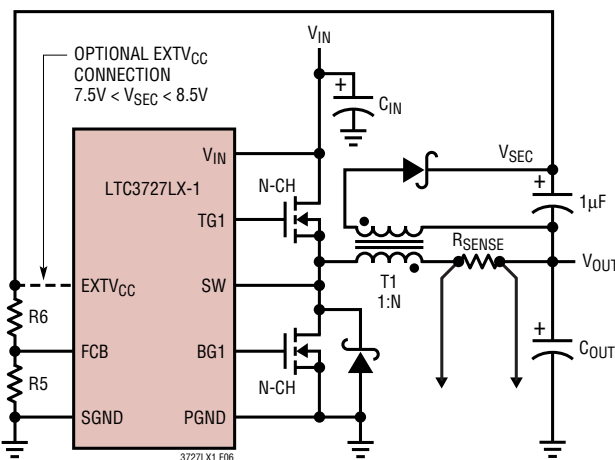

Figure 6. Secondary Output Loop & $EXTV_{CC}$ Connection
4. $EXTV_{CC}$ Connected to an Output-Derived Boost Network. For 3.3V and other low voltage regulators, efficiency gains can still be realized by connecting $EXTV_{CC}$ to an output-derived voltage that has been boosted to greater than 7.5V. This can be done with the inductive boost winding as shown in Figure 6.
The secondary output voltage V_{SEC} is normally set as shown in Figure 6 by the turns ratio N of the transformer: